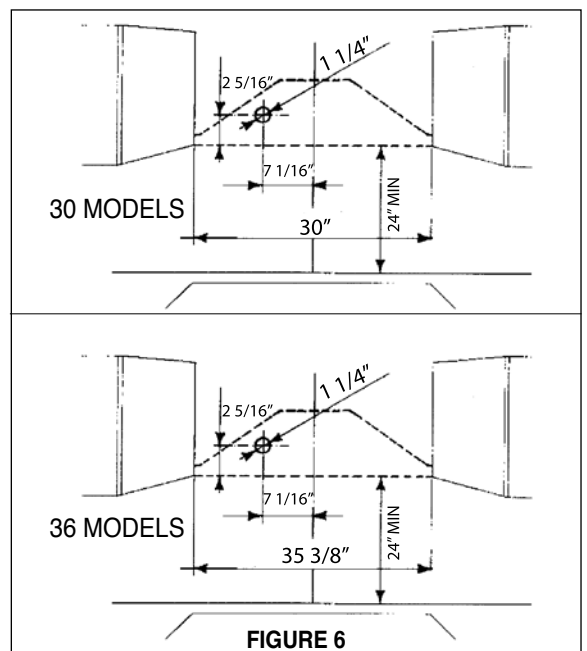

FIGURE 6
6. Determine the proper location for the Power Supply Cable (**FIGURE 6**). Use a 1 1/4" Drill Bit to make this hole. Run the Power Supply Cable. Use caulking to seal around the hole. DO NOT turn on the power until installation is complete.
NOTE: The wiring box may be located on the right or left side in the hood. Use the mirror image of **FIGURE 6** if located on the opposite side. An alternate method of bringing power to the hood is feeding the cable thru the strain relief located next to the duct hole on top of the hood (on the centerline, 10" up from the bottom of the hood.)